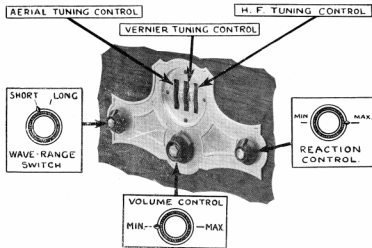

Fig. 4.
3. Adjust the radio volume control to the position for maximum volume (see fig. 4).
The positions of the wave-range switch for "short" and "long" ranges are shown in fig. 4.
6. Now rotate the aerial and H.F. tuning controls (see fig. 4) slowly and in the same direction until the desired station is heard. Both dials should be kept roughly in step, i.e., at approximately the same readings, during this operation, and it is advisable to advance one dial steadily in a given direction, at the same time imparting to the other a to-and-fro motion, so that the tuning of the two circuits is bound to agree at certain positions of both dials.